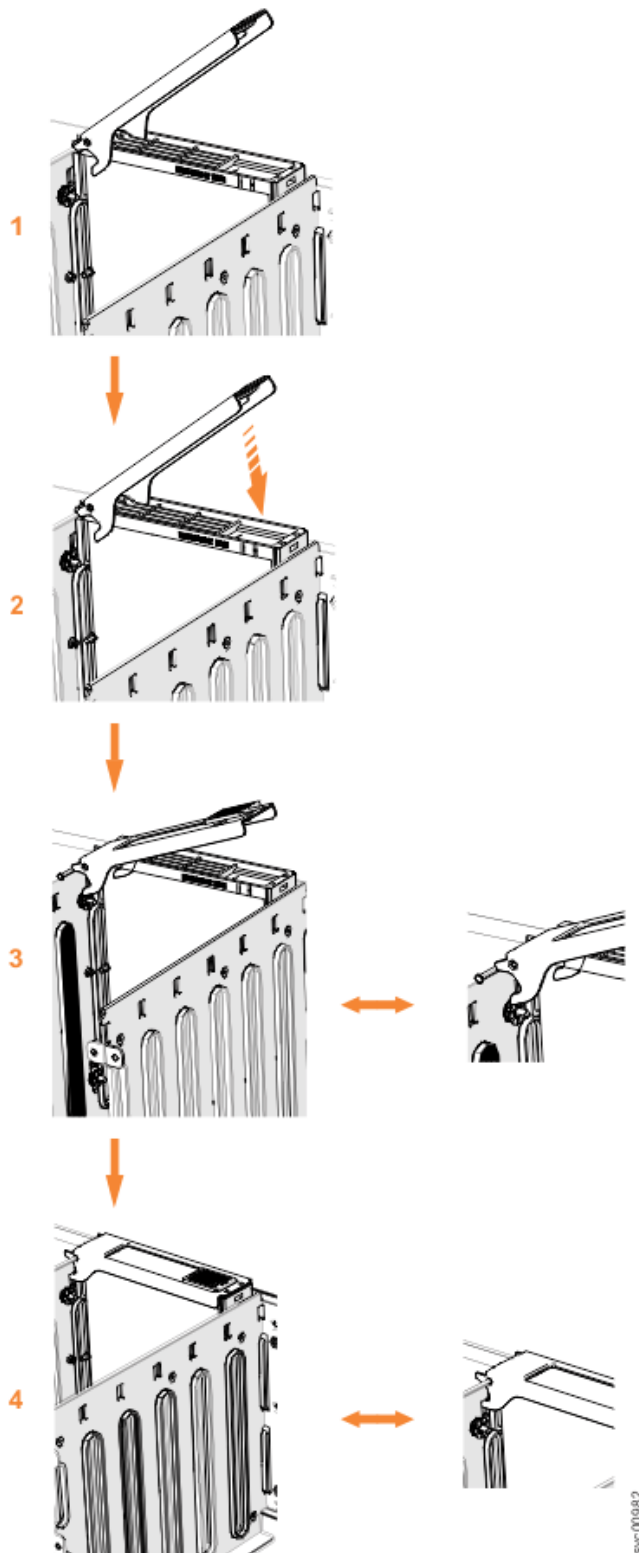

Figure 63. Replace the drive
5. Ensure that the drive handle (❶ in Figure 63 on page 62) of the drive assembly is in the open (unlocked) position.
7. Gently push the drive down until it stops and the bottom of the latch is aligned with the top of the partition. Ensure that the handle is not open more than 45 degrees from the drive carrier. (❷ in Figure 63 on page 62).
8. Rotate the handle down to lock the drive assembly into the chassis (**3** in Figure 63 on page 62).
10. Ensure that the top toe of the latch is also fully engaged (**4** in Figure 63 on page 62).